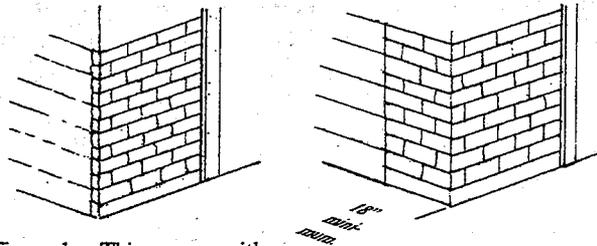

Figure 1a: Thin veneer with no side return is not allowed
- Brick and stone front facades shall return at least 18" around side walls (Figures 1a and 1b).